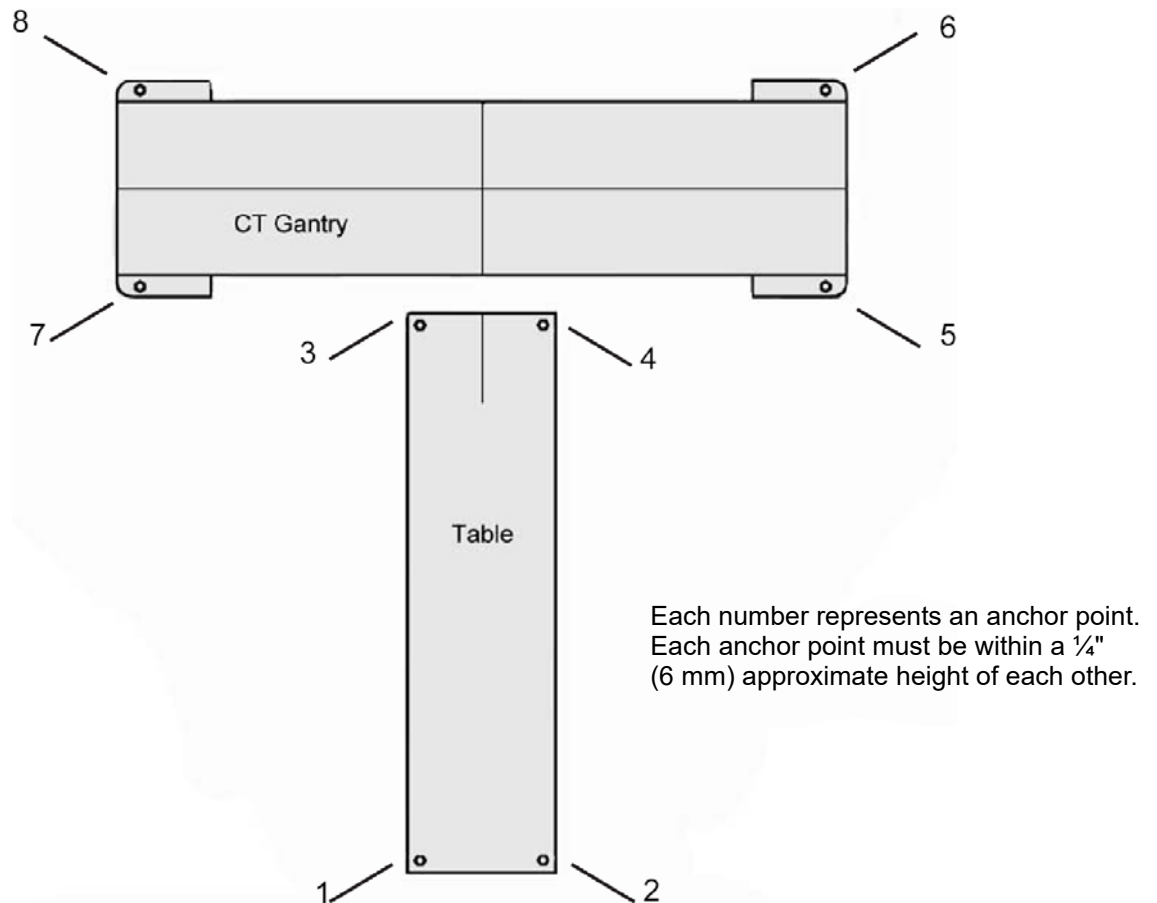

Figure 1-4 Check Floor Level
- 5.) Prior to removing this template, check floor levelness, as shown in Figure 1-4.